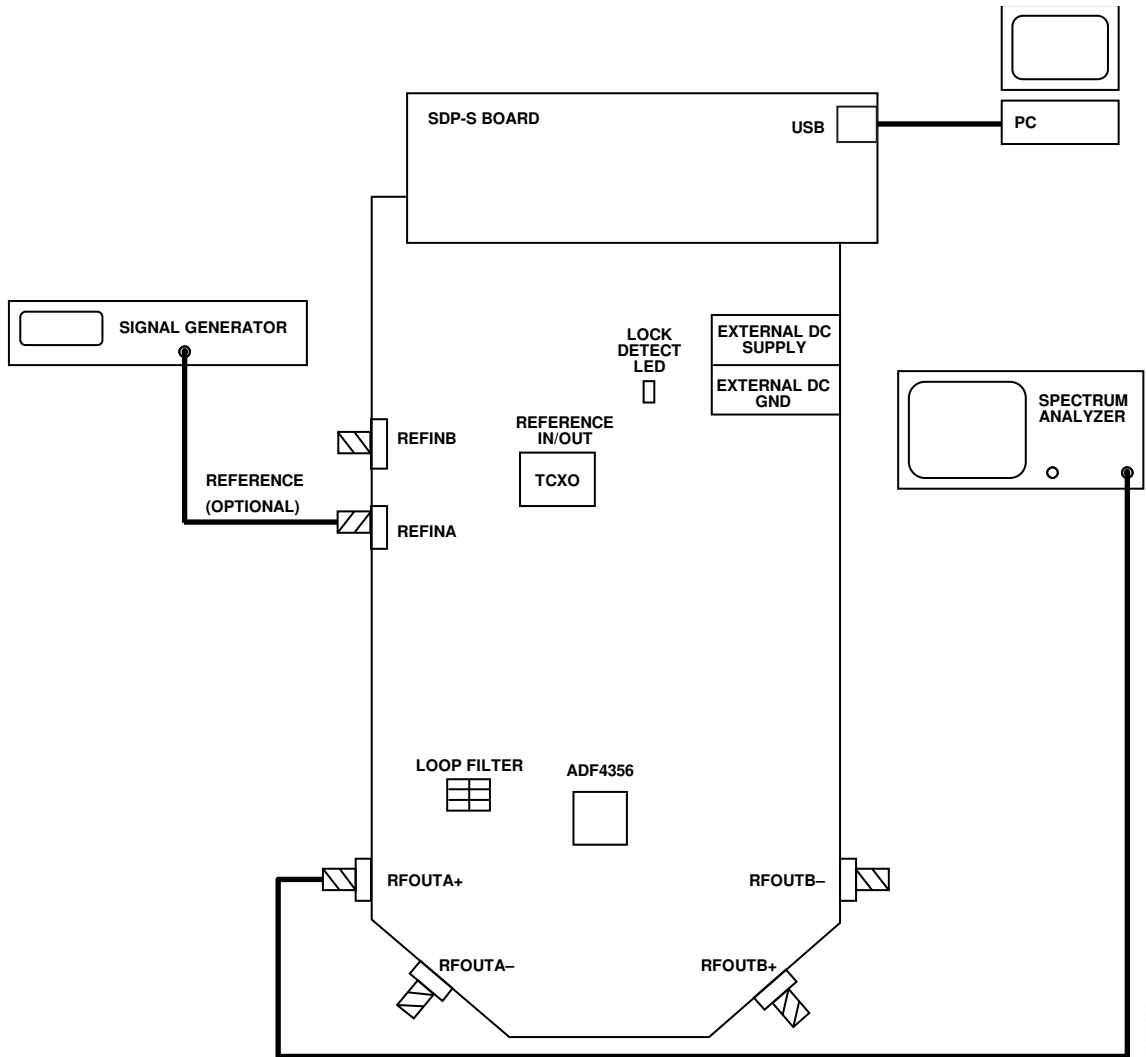

Figure 3. Evaluation Setup Block Diagram
Changes to Evaluation Board Hardware Section and Deleted Figure 3, Renumbered Sequentially .....
11. Connect the spectrum analyzer to SMA connector RFOUTA+, see Figure 3 for a typical evaluation setup.